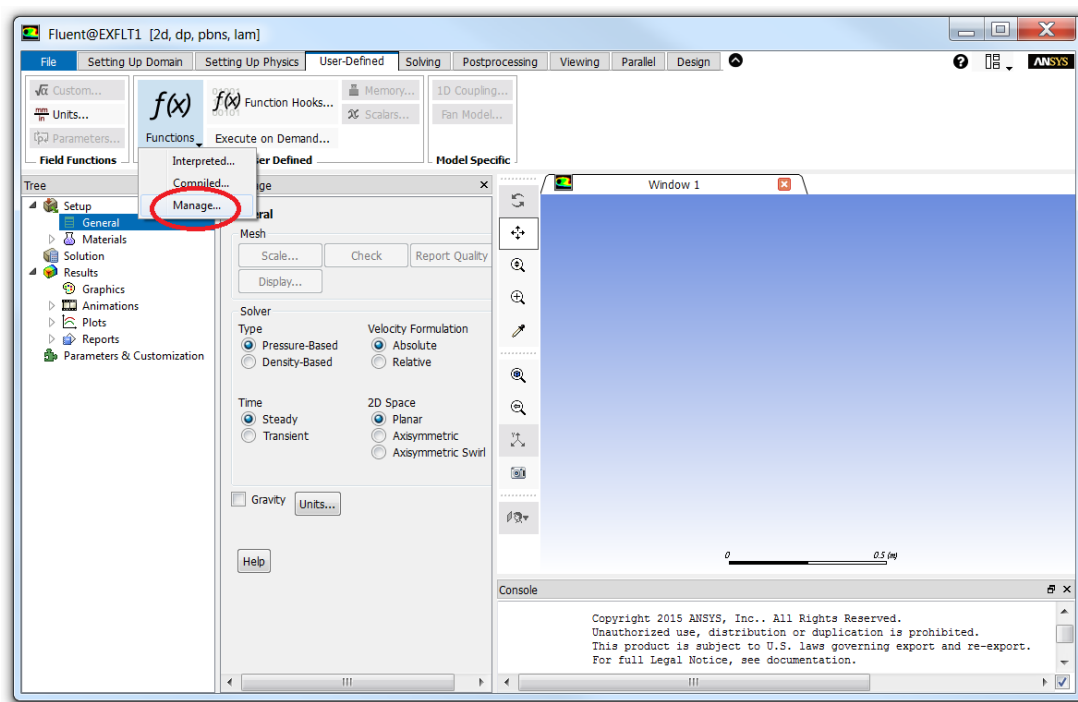
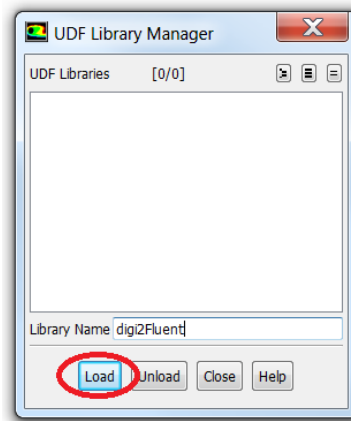

Figure I.5.12: Library manager opening
Figure I.5.13: Digimat-CAE/ANSYS Fluent interface dynamic library loading
3. The Digimat-CAE/ANSYS Fluent interface dynamic library must be loaded into ANSYS Fluent. Access the UDF Library Manager (see figure I.5.12) and **Load** the library using the copied folder name, e.g. "digi2Fluent" if renamed as in the previous operation (see figure I.5.13).